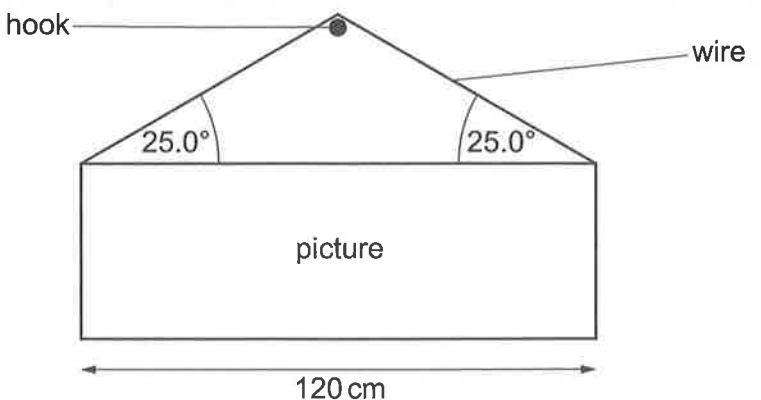

Fig. 3.1
- 3 Fig. 3.1 shows a picture suspended from a hook on a wall using a wire of negligible mass.